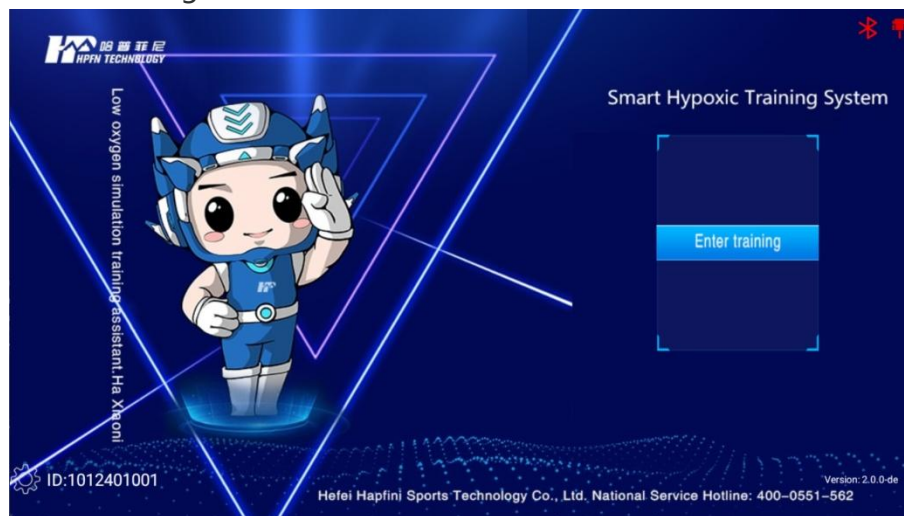
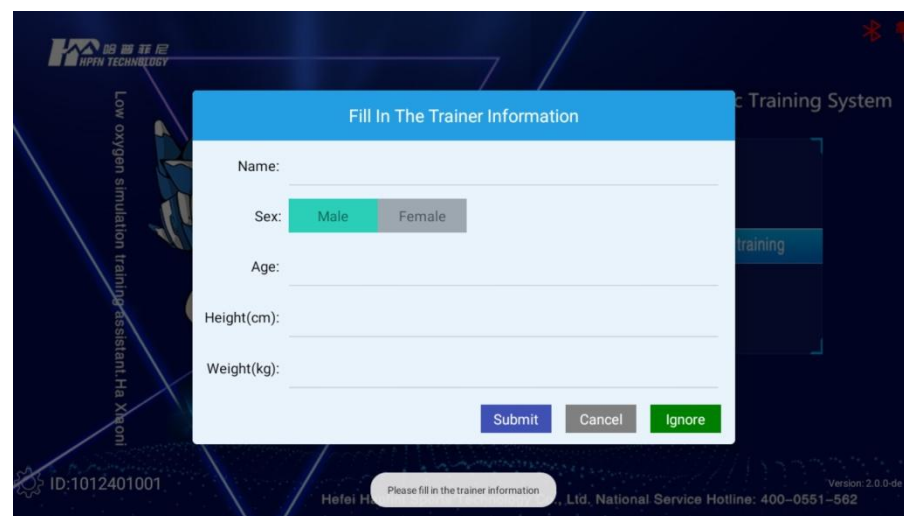

Figure 1
Figure 2
The initialization interface of the interface function module is detailed in Figure 1:
Click the Bluetooth icon in (Figure 1), enter the heart rate armband number and click Start Connection to connect to Bluetooth.
Press the client's power switch, the indicator light will be on, and the initialization interface shown in Figure 1 appears when the tablet is turned on.
In (Figure 1), click to enter the training. In the pop-up box, you need to enter the basic information of the trainer (Figure 2),
① Assemble all one-way valve assemblies and other accessories on the silicone mask (Figure 1), and then install the plastic joint components on the silicone mask (Figure 2).(Two black
② Follow the above steps to complete the assembly (Figure 2) before installing the strap on the silicone mask.
③ Pay attention to the direction of the silicone mask and the strap, and put the word "0123" on the silicone mask in the same direction as the logo.
④ Rotate clockwise to lock 2 black nuts, then glue the strap and install the mask.
⑤ After installing the mask, check the position direction of the silicone mask and the strap, and check the position direction of the one-way valve assembly.